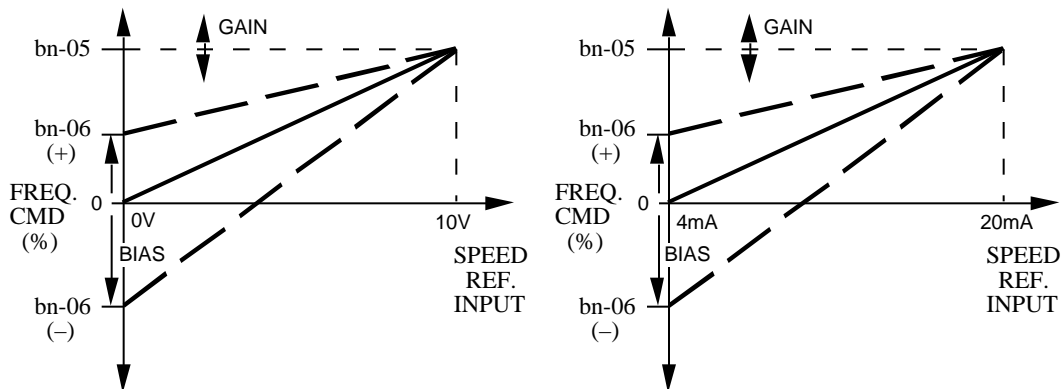

Figure 5. Frequency Command Gain and Bias Adjustments for GPD 503
B. GPD 503: See Table 4 and Figure 5.